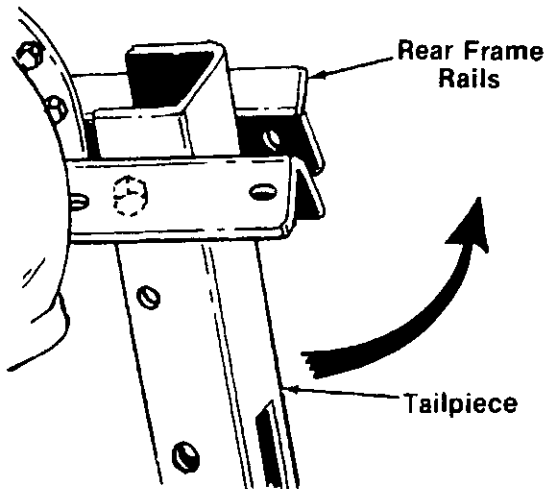

FIGURE 3.
- R (1) Left Hand Handle
- S (1) Handle Panel
- T (2) Wheels
- U (2) Handle Braces (Right & Left Hand)
- V (1) Depth Bar
- W (1) Wheel Yoke Assembly
- X (1) Right Hand Tine Assembly
- Y (1) Left Hand Tine Assembly
3. The tailpiece is partially assembled. Pivot the tailpiece upward until the holes line up with the rear frame rails. See figure 3.